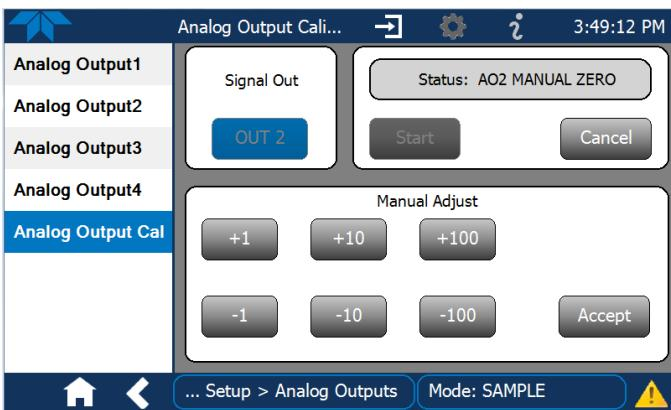
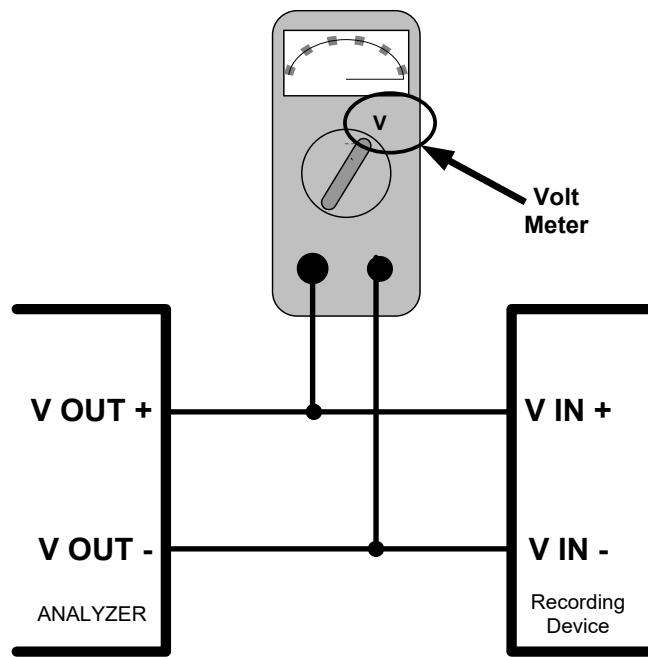

Figure 2-56. Analog Outputs Manual Calibration Screen (AO2 Example)
Figure 2-57. Setup for Checking / Calibrating DCV Analog Output Signal Levels
- MANUAL for individual calibration (Figure 2-56) of analog outputs where manual adjustments can be made (the only calibration type allowed when Current is selected for the Range). See Sections 2.5.8.1 and 2.5.8.2 .
It is possible to manually calibrate the voltages by using a voltmeter connected across the output terminals (Figure 2-57) and changing the output signal level in the Manual Adjust field of the Analog Outputs Calibration screen (Figure 2-56). Refer to Table 2-14 for voltage tolerances.